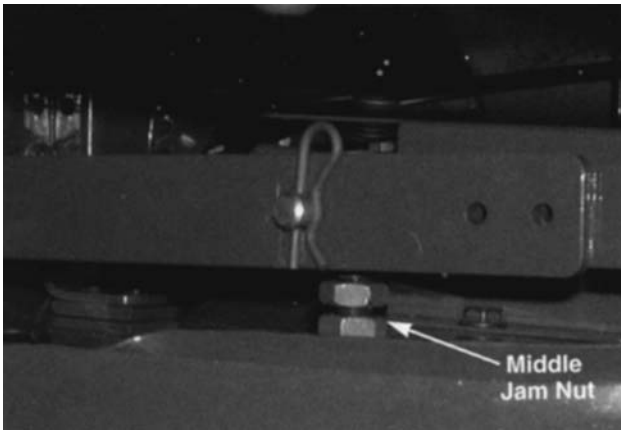

Figure 8-4.
7. Loosen the middle jam nuts that are directly below the center deck ferrules until they bottom out on top of the mowing deck jam nuts using a 3/4" wrench. See Figure 8-4.
7. Loosen the middle jam nuts that are directly below the center deck ferrules until they bottom out on top of the mowing deck jam nuts using a 3/4" wrench. Refer to Figure 8-4.